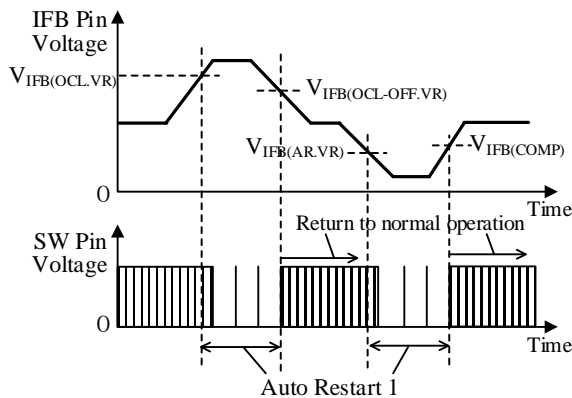
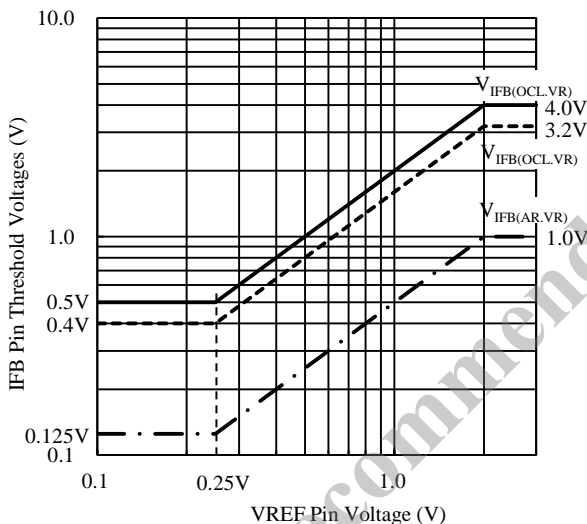

Figure 8-14. IFB Pin Threshold Voltage and Auto Restart 1 Operation
Figure 8-15. VREF Pin Voltage Versus IFB Pin Threshold Voltages
As shown in Figure 8-14, IFB pin has two types of threshold voltage. These threshold voltages depend on the VREF pin voltage, as shown in Figure 8-15.
When the FB pin voltage increase to $V_{IFB(OCL.VR)}$ in Figure 8-15, or more, the operation of the IC switches to Auto Restart 1. When the fault condition is removed and the IFB pin voltage decreases to $V_{IFB(OCL-OFF.VR)}$ in Figure 8-15, or less, the IC returns to normal operation automatically.
When the FB pin voltage decrease to $V_{IFB(AR.VR)}$ in Figure 8-15, or more, the operation of the IC switches to Auto Restart 1. When the fault condition is removed and the IFB pin voltage increases to above $V_{IFB(COMP)}$, the IC returns to normal operation automatically.
- When IFB pin voltage becomes $V_{IFB(OCL.VR)}$ or more (see Figure 8-15), the IC switches to Auto Restart 1.
The OVP pin detects the divided LED output voltage by R6 and R7. When the LED_OUT (+) or the IFB pin is open and the OVP pin voltage increases to the OVP Pin Overvoltage Protection Threshold Voltage, $V_{OVP} = 3.00$ V, the IC immediately stops switching operation. When the OVP pin voltage decreases to the OVP Pin Overvoltage Protection Release Threshold Voltage, $V_{OVP(OFF)} = 2.75$ V or the IFB pin voltage decreases to $V_{IFB(AR.VR)}$ in Figure 8-15, then the IC switches to Auto Restart 1.
When the LED_OUT (-) and the GND are shorted, and the IFB pin voltage decreases to $V_{IFB(AR.VR)}$ in Figure 8-15, then the IC switches to Auto Restart 1.
When the output current detection resistor, R11, is shorted, the IFB pin voltage decreases. When the IFB pin voltage decreases to $V_{IFB(AR,VR)}$ in Figure 8-15, then the IC switches to Auto Restart 1.